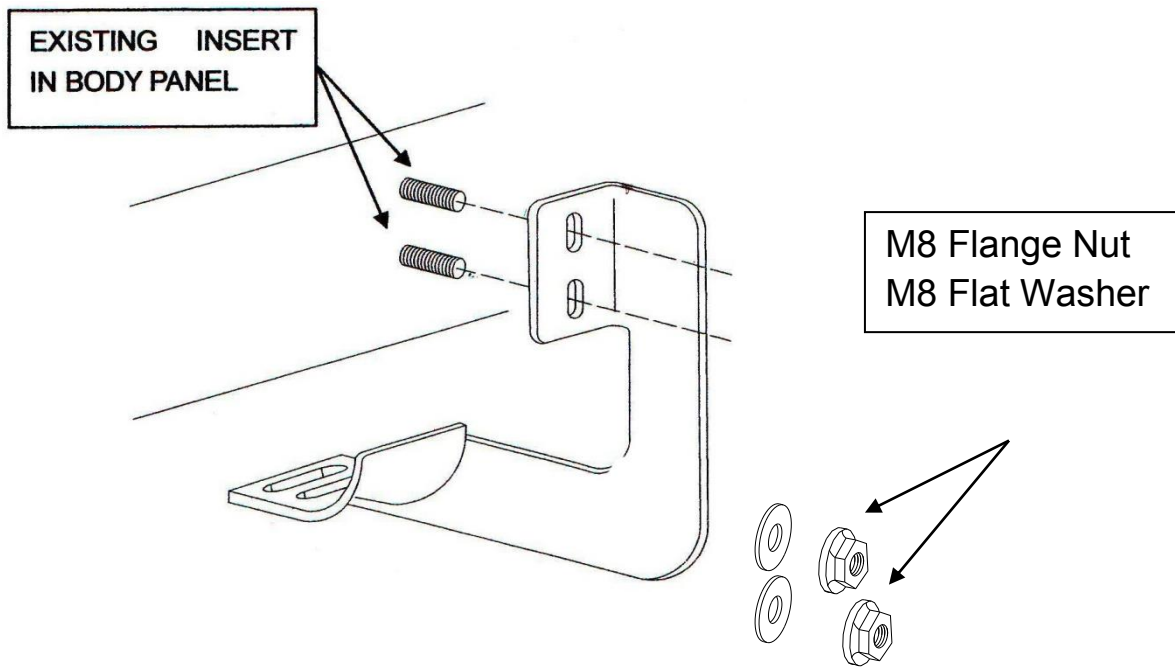

Figure 1. Driver Side – Front & Rear Bracket
- Determine driver side brackets. All driver side brackets are identical with metal cup facing toward the rear of the vehicle (see Fig. 1).
- Install driver side bracket closest to the front wheel first. Use one, M8 flat washer, M8 Flange Nut by attaching to underside of body panel. Hand tightens. Use existing factory hole in body panel for install (see Fig 1).
- Attach remaining driver side brackets to underside body panel by using 2 M8 Flange Nut, M8 flat washers per bracket. Hand tightens. Use existing factory holes in body panel (see Fig. 1).